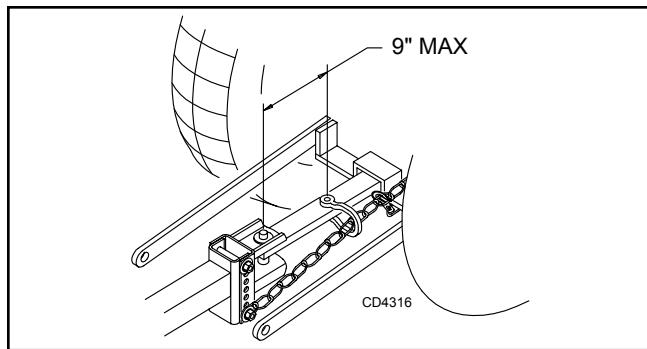

Figure 2. Tow Chain Installation
- Attach the safety chain to the tractor as shown in Figure 2. Do not allow more slack than the minimum necessary for articulation. Do not use an intermediate support as the primary attaching point.